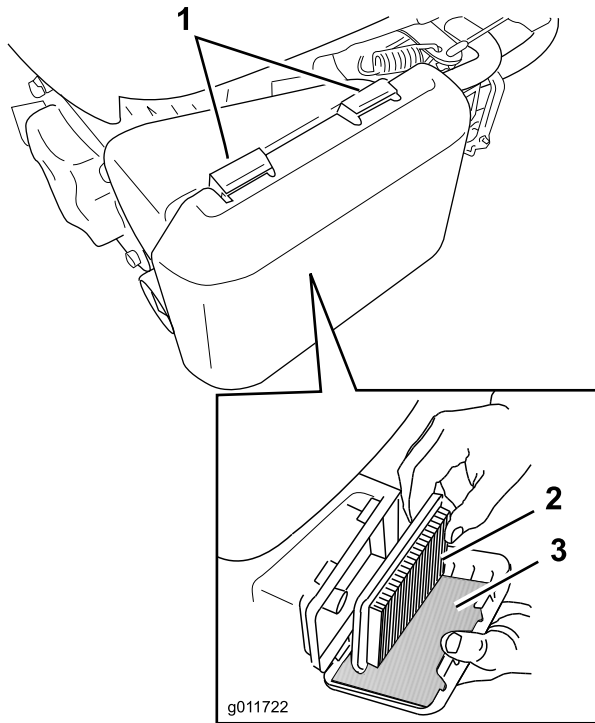

Figure 33
1. Press down on the latch tabs on top of the air cleaner cover (Figure 33).
3. Remove the paper air filter and the foam pre-filter (Figure 33).